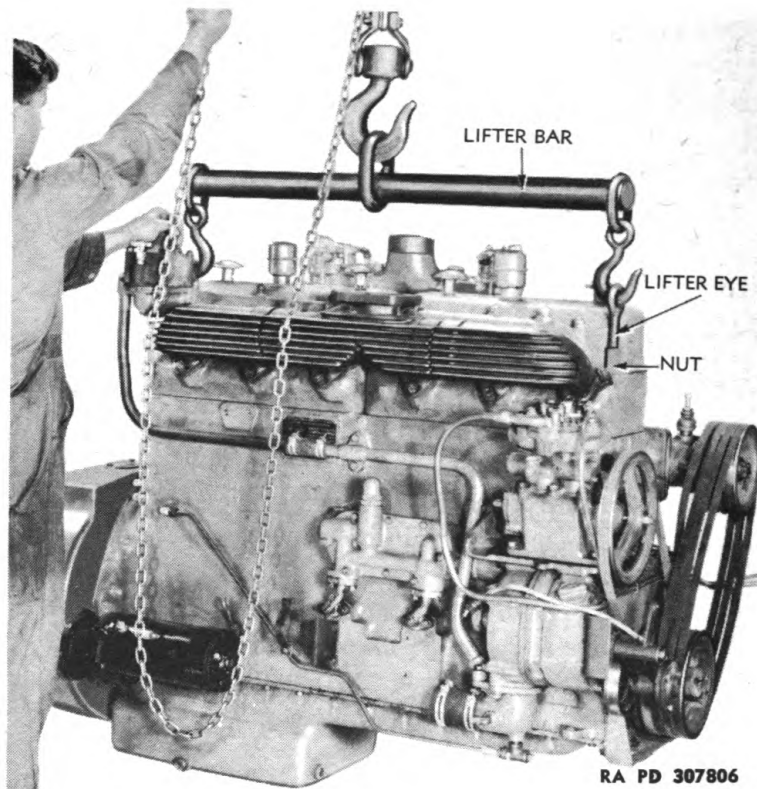

Figure 3 – Lifting Engine, With Lifting Sling 41-S-3831-810
b. Install Lifter Eyes. Remove nut from center cylinder head stud at flywheel end of engine, and nut from cylinder head stud at opposite end of engine, and install the lifter eyes of special engine lifter (41-S-3831-810) on these two studs. Hook lifter into eyes, with shorter end of bar towards flywheel end of engine as shown in figure 3, and lift engine onto stand, blocks, or bench. Remove engine lifter and lifter eyes.